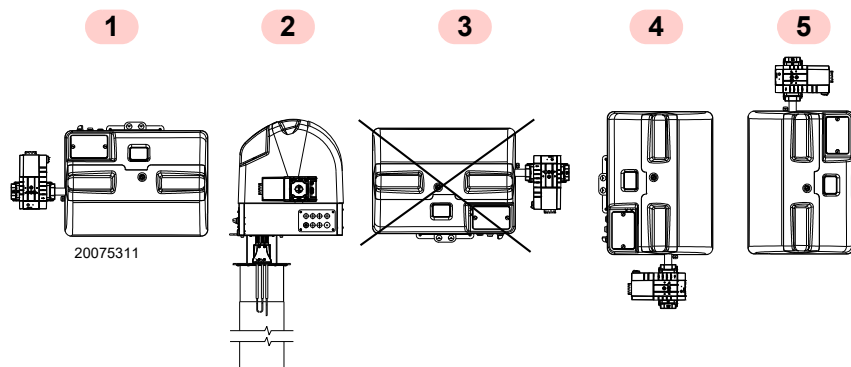

Fig. 14
- The burner is designed to operate only in positions 1, 2, 4 and 5 (Fig. 14).
- All the positions require the installation of the gas valve with coils facing upwards or horizontally (Fig. 14).